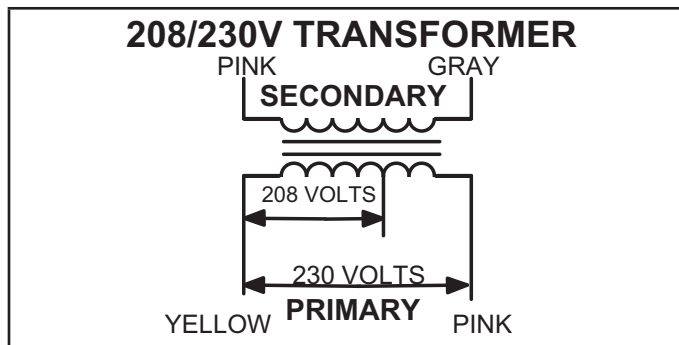

FIGURE 4
All use a single line voltage to 24VAC transformer mounted in the control box. Transformer supplies power to control circuits in the unit. The transformer is rated at 70VA and is protected by a 3 amp (auto) fuse F1. The 208/230 (Y) voltage transformers use two primary voltage taps as shown in FIGURE 4, while 460 (G) and 575 (J) voltage transformers use a single primary voltage tap.